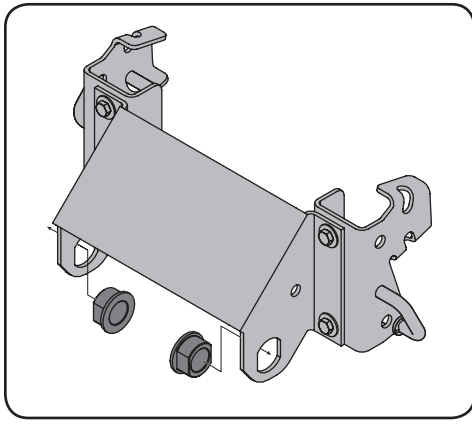

Figure 2-6
6. Insert bearing flanges (741-0192) into large mounting bracket. See Figure 2-6.